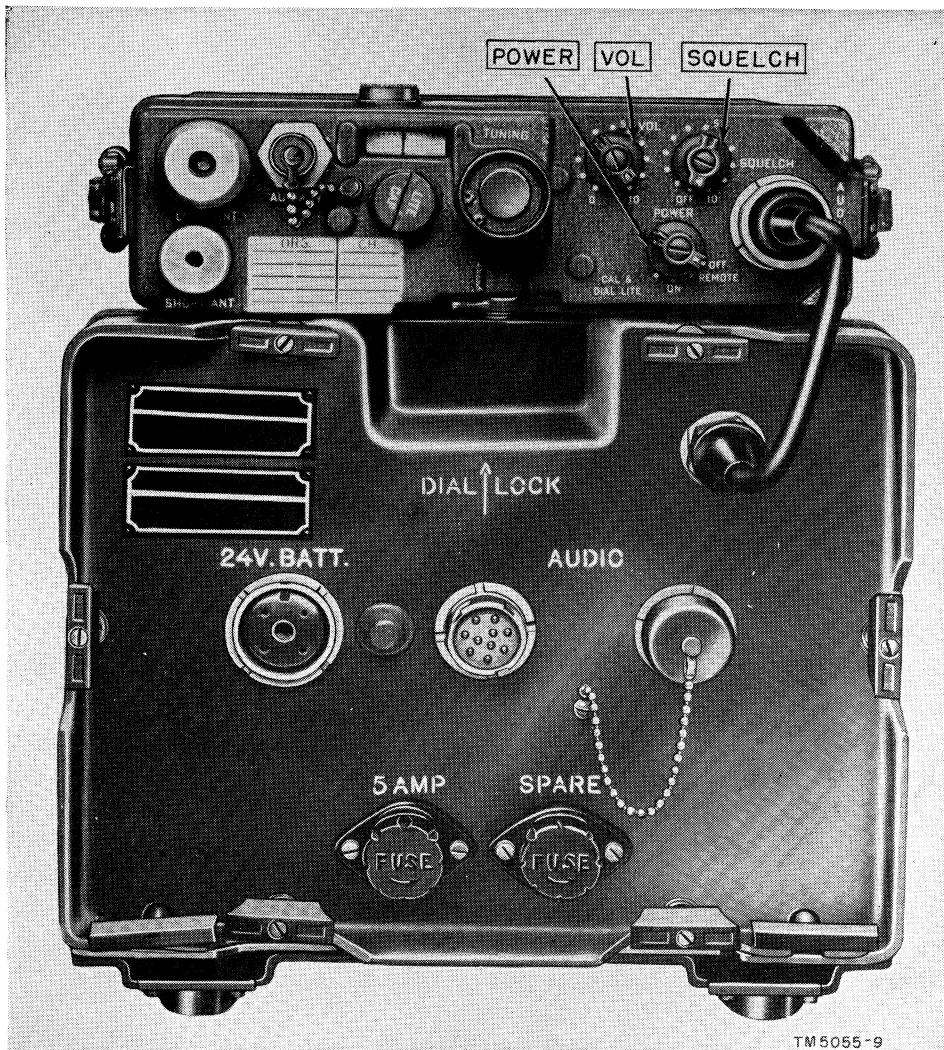

Figure 10. Receiver-transmitter installed on Amplifier-Power Supply AM-598/U.
- (1) Set the receiver-transmitter on top of the power supply (fig. 10). See that the POWER switch on the receiver-transmitter is set at OFF. Insert the battery plug of the receiver-transmitter into the receptacle at the rear of